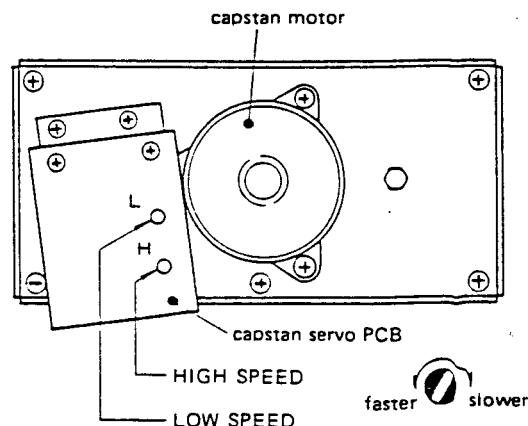

Fig. 2-25
3. Play the tape. Adjust HIGH SPEED control (see Fig. 2-25) for a reading of  $3,000\text{Hz} \pm 5\text{Hz}$ .